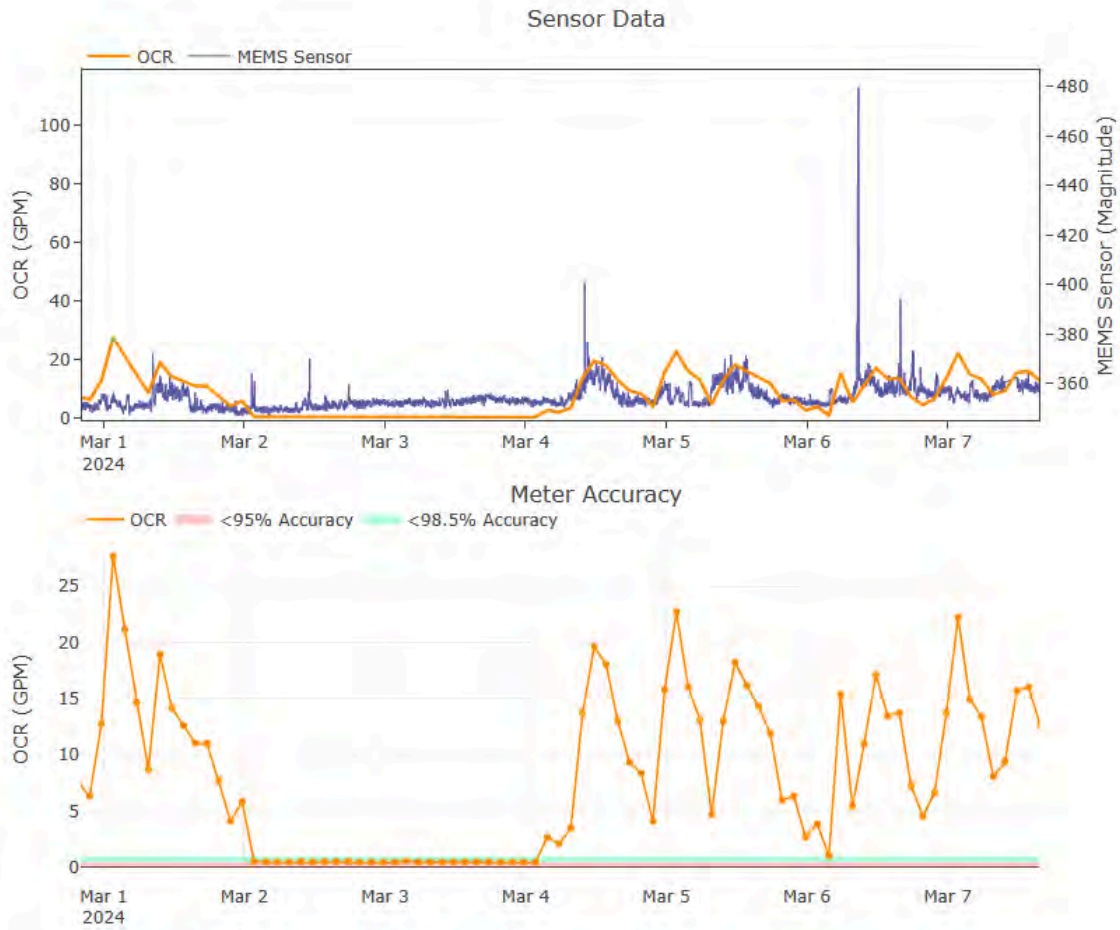

Figure 39 - Post repair 'No Problem Found' meter
- This compound meter (Figure 39), previously had an early crossover valve malfunction error. Fullerton staff have completely replaced the Hershey meter with a Sensus meter, and Olea's MHA technology has identified this meter as 'No Problem Found'.